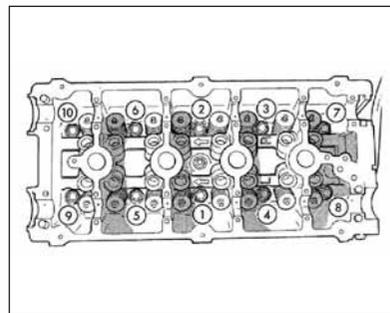

Figure 2 Chrysler 2.4L head re-torque procedure.
4) Using a six-inch wobble plus extension friction ball and shallow socket, and following the torque sequence shown in **Figure 2** (below), loosen one bolt at a time to 0 torque and then torque that same head bolt to 60 ft.lbs.